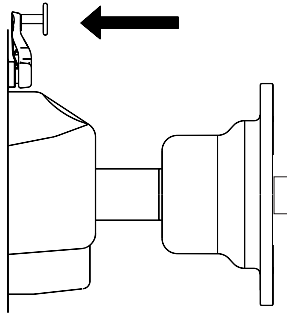

Figure 18
1. Make sure the Rim Offset Gauge Arm is at home position and no adapter or wheel is mounted as shown in Figure 18.